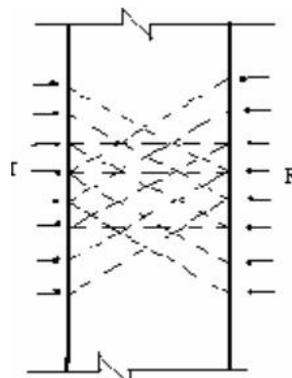

Figure 1.2 Oblique elevation diagram
(2) When the member has only one pair of test faces that are parallel to each other, a combination of the measurement and the oblique measurement can be employed. As shown in Figure 1.2, the grid lines are drawn on two mutually parallel test surfaces of the positioning, and the cross-slope measurement can be performed on the basis of the measurement;